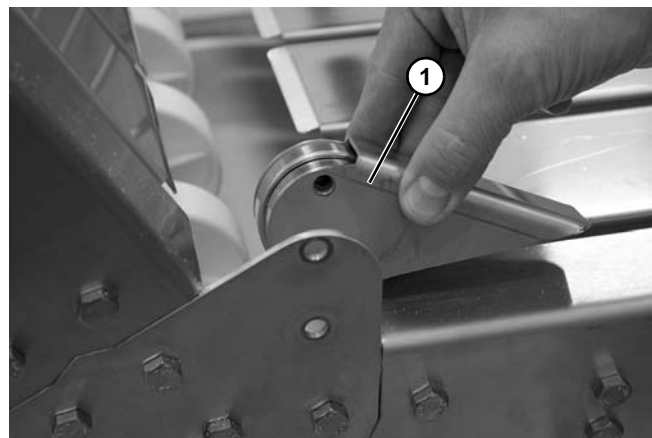

Figure 13
3. Remove bearing guard (**Figure 13, item 1**) with bearing.